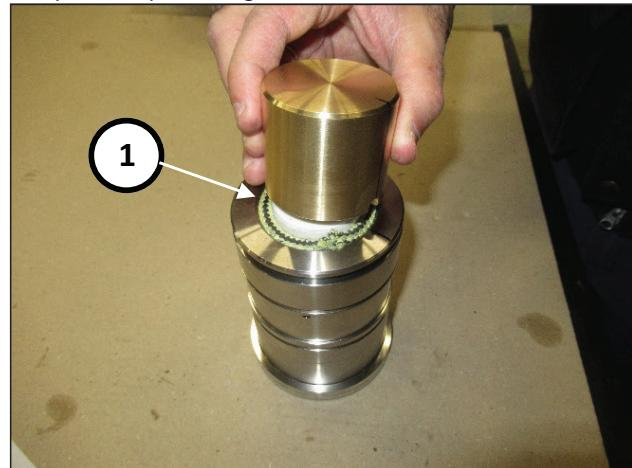

Fig. 181
Use the inner buffer of tool no. 27945400 to push the rings into position (pos. ①, Fig. 181).